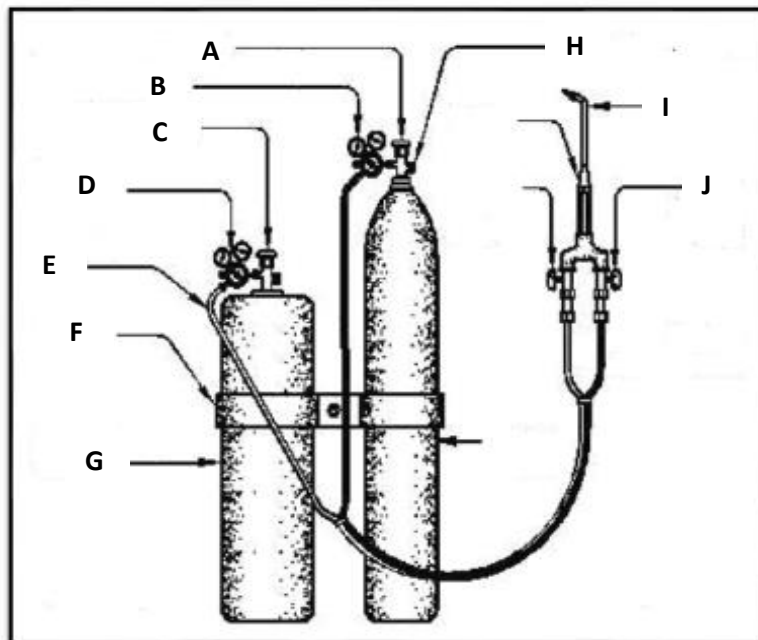

FIGURE 6.5
6.5 Identify the labels (A–J) of the oxy-acetylene equipment in FIGURE 6.5 below.